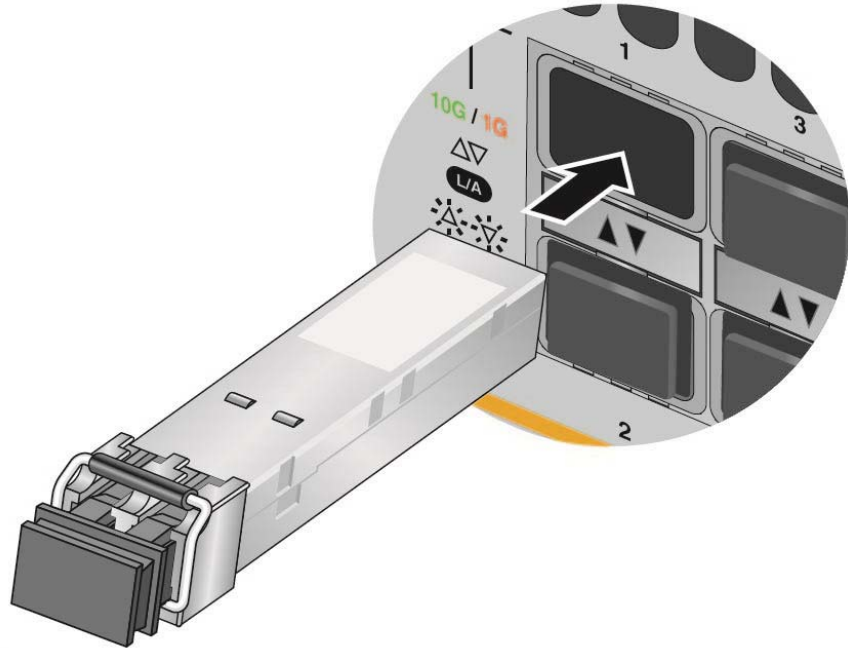

Figure 68. Installing an SFP Transceiver
4. Slide the transceiver into the slot until it clicks into place. Refer to Figure 68 on page 121.